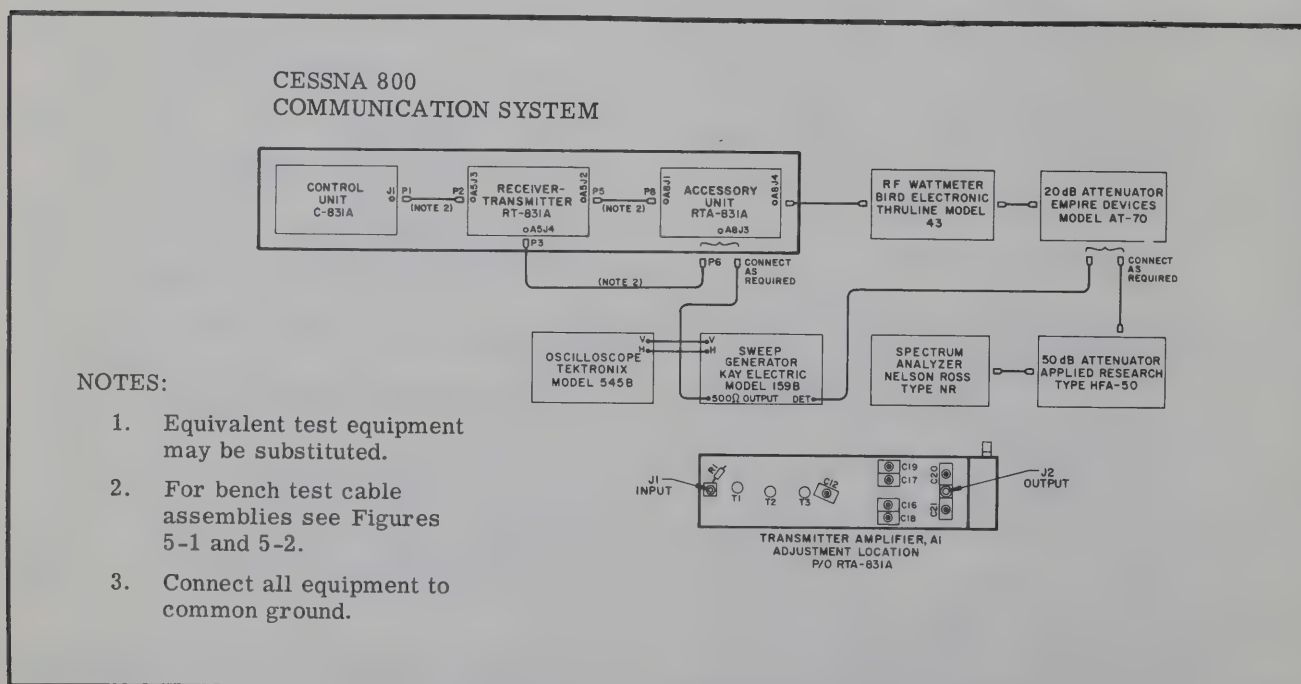

Figure 5-7. Bench Test Interconnection Diagram for Alignment of Transmitter Amplifier A1
Step 1. Interconnect Cessna 800 Communication components and test equipment as shown in Figure 5-7.